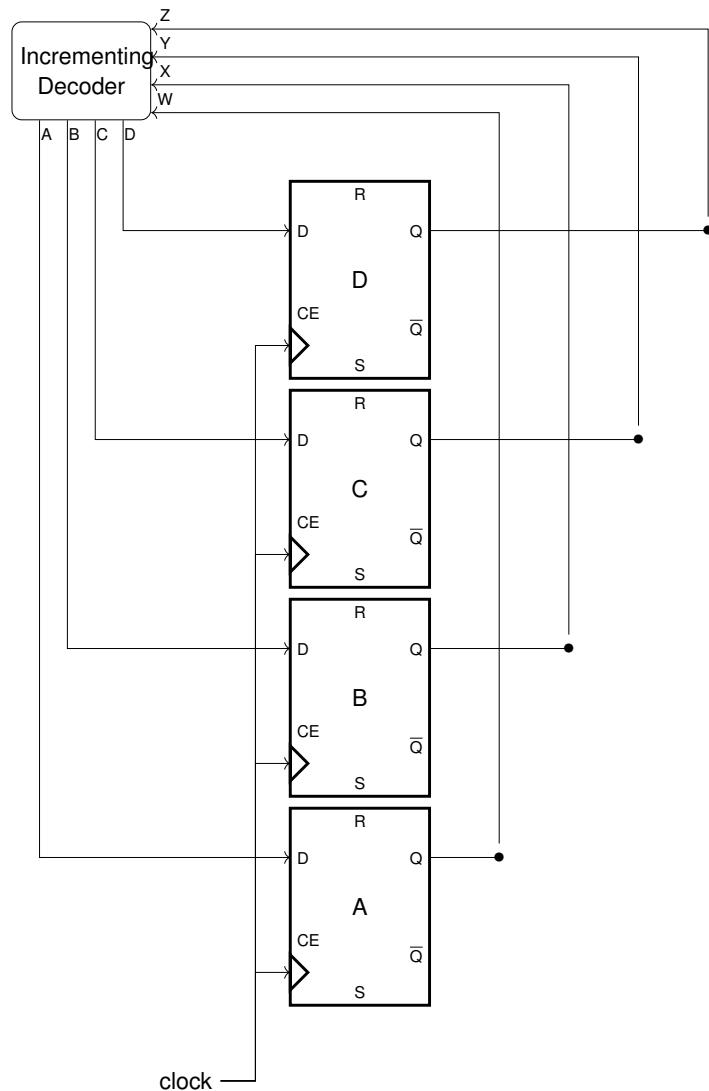

Fig. 6.2: Decade counter FSM implementation using D-Flip Flops
2. The FSM implementation is available in Fig 6.2. The *flip-flops* hold the input for the time that is given by the *clock*. This is nothing but the implementation of the *Delay* block in Fig 5.2.